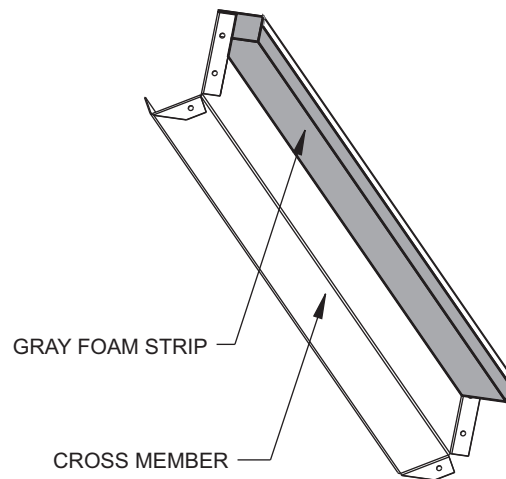

Fig. 29 — Adding Foam Strip to Cross Member
2. Add gray foam strip (provided) to cross members on bottom tray. See Fig. 29.